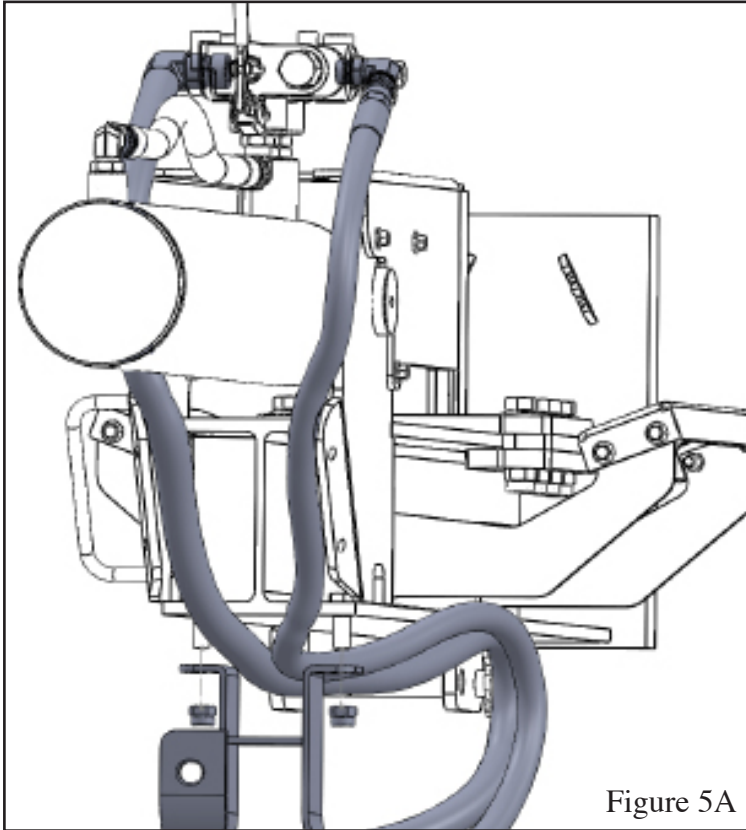

Figure 5A
1. Run the two hoses emerging from either side of the control valve to the underside of the log splitter as shown in Figure 5A (next page).